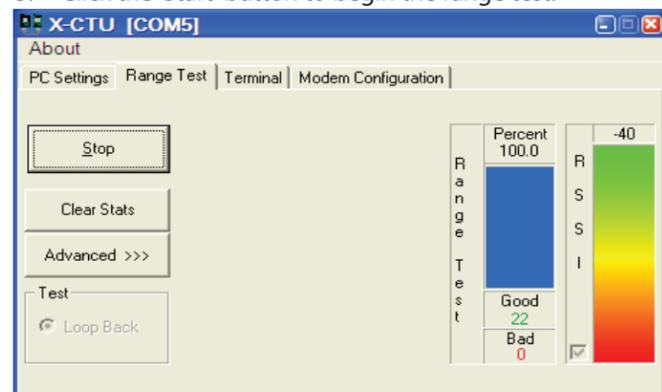

Figure 5
6. Move the ROUTER/END DEVICE (with red Serial Loopback Adapter) away from the COORDINATOR to find the maximum range of the wireless link. The percentage of good/bad packets will be displayed in the "Percent" box. [Figure 5]